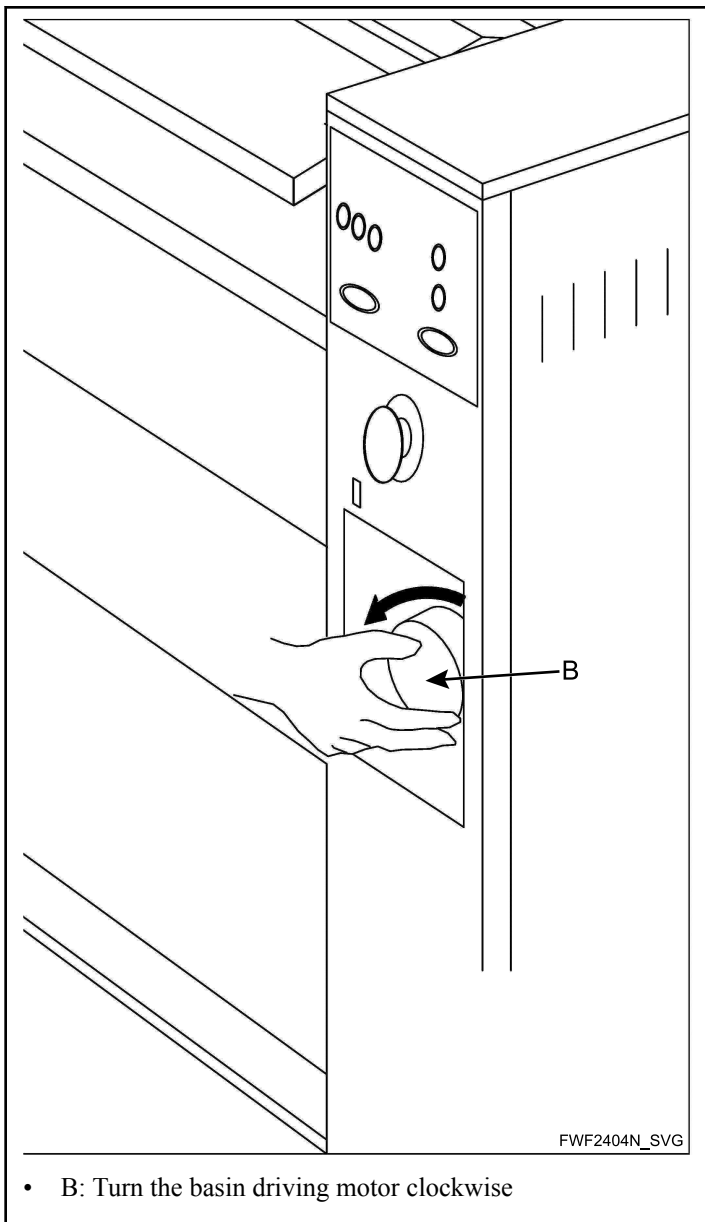

Figure 17
3. Manually turn the basin driving motor clockwise (B) (refer to *Figure 17*) to detach the basin from the roller: